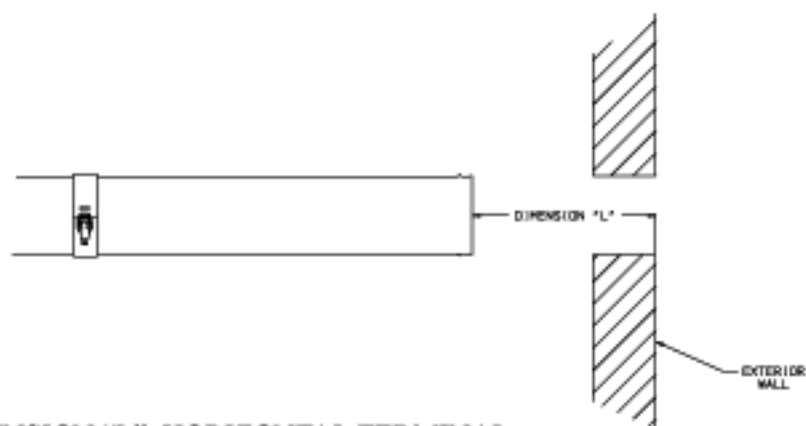

FIGURE 6.20a: DIMENSION "L", HORIZONTAL TERMINAL
- b) Measure distance "L" from the outside surface of the exterior wall to the end of the last fitting as shown in Figure 6.20a.